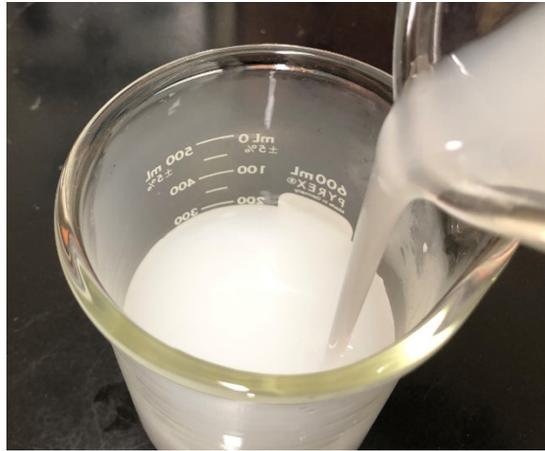

Figure 1. Polymer Solution is very Viscous.
- Polymer in solution is very viscous (see Figure 1), which means it is “thick” and resistant to flowing.